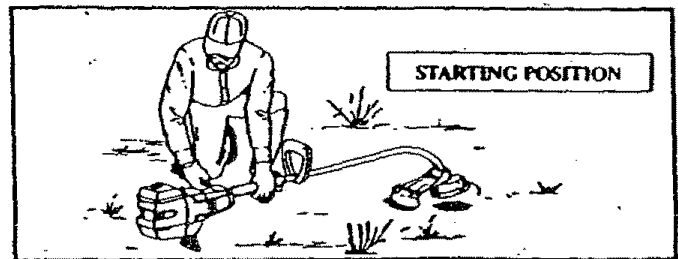

Figure 11
- c. Rest Engine and Shield on ground, supporting Trimmer Head off the ground away from trees, bushes, onlookers, etc. Figure 11.